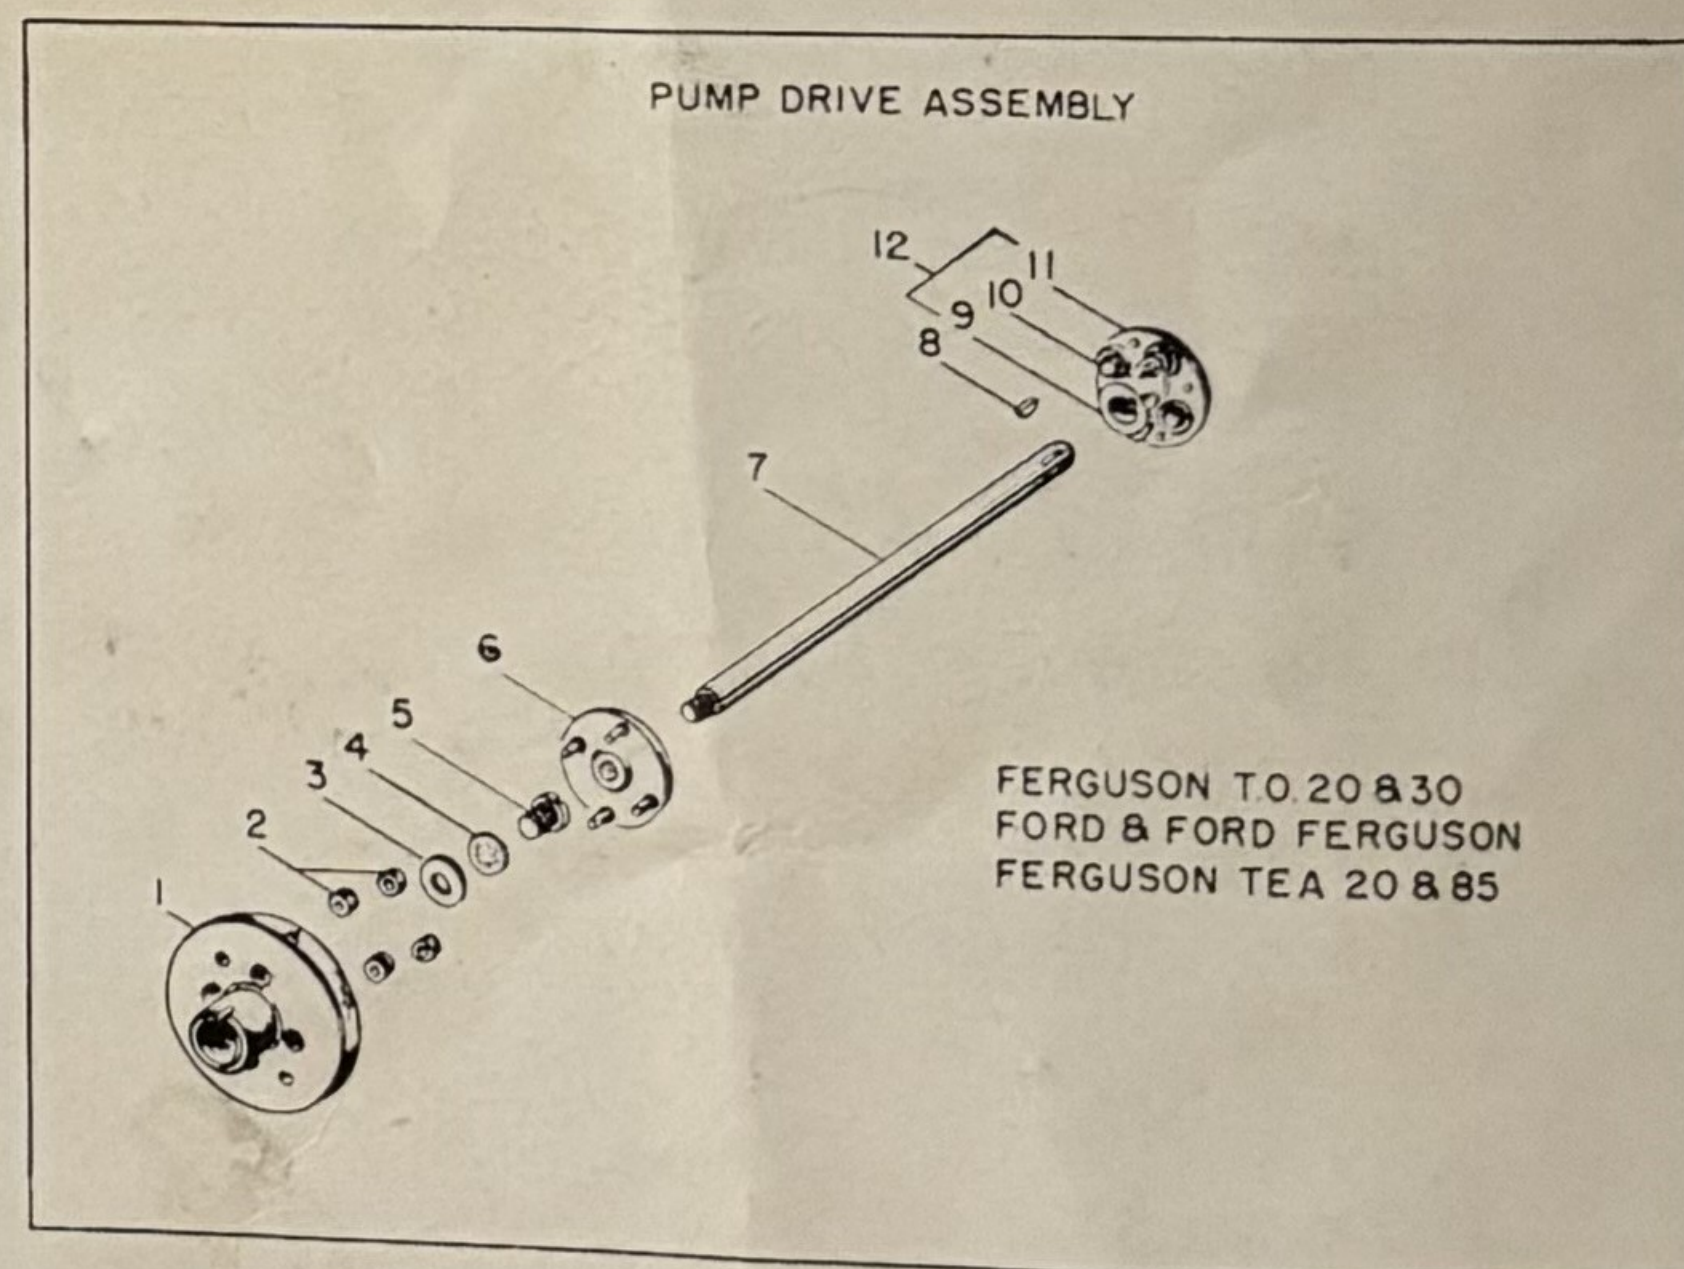

FIGURE 5
7. Place jack (1) under crankcase approximately 4" back from front end of crankcase. Raise jack just enough so that it touches crankcase.
8. Remove stabilizer bar bracket (2). Preferably left hand.
9. Remove radius rod pin (3) at front axle steering arm.
10. Remove bolts holding trunion housing to crankcase (4). Ford and Ford Ferguson, six bolts. Ferguson, four bolts.
11. Swing axle assembly to side leaving fan pulley in full view (5). Remove fan pulley.
12. Install special fan pulley on crankshaft. Secure with special cap screw, lock washer, and plain washer furnished. See (3, 4, and 5) Fig. 5.
13. Install flange assembly to rubber bushed holes in special fan pulley (6).